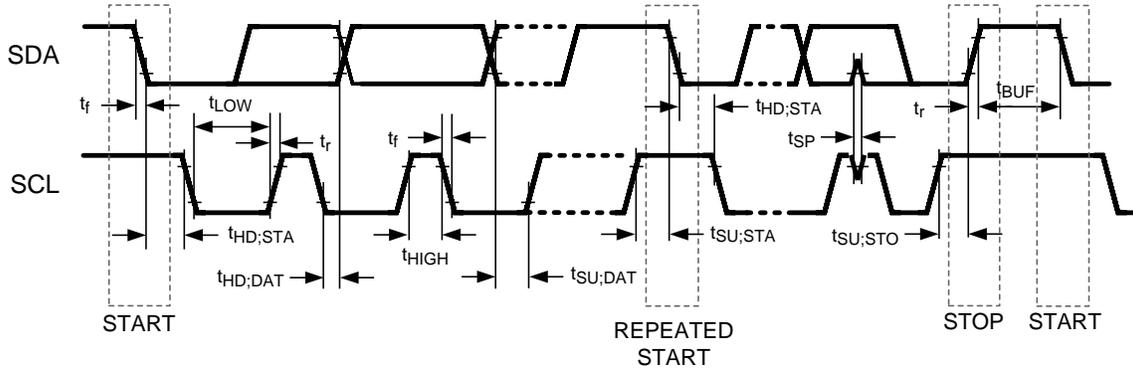

Figure 8. Serial Control Bus Timing Diagram
Over supply and temperature ranges unless otherwise specified. (Figure 8)(1)
Over supply and temperature ranges unless otherwise specified. (Figure 8)